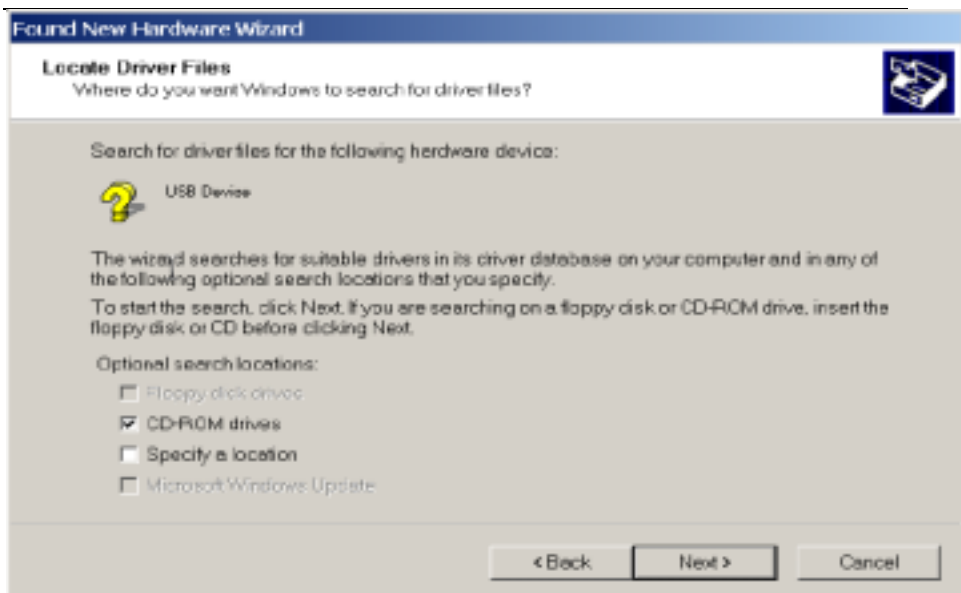

Figure A-4
4. Check on “Search for a suitable driver for my device (Recommended)” and click on Next. The system will display a window as shown in Figure A-4.